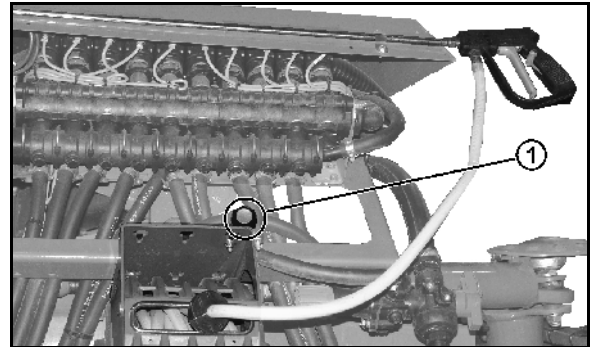

Fig. 118
- the DUS switch tap (Fig. 118/1).
- the DUS pressure relief valve (Fig. 118/2). The DUS pressure relief valve is permanently set at the factory and reduces the pressure in the pressure circulating system to 1 bar.
- If the DUS switch tap is in position (Fig. 118/A), the pressure circulating system is switched ON.
- If the DUS switch tap is in position (Fig. 118/B), the pressure circulating system is switched OFF.
- If the DUS switch tap is in position (Fig. 118/C), liquid can be drained from the field sprayer.